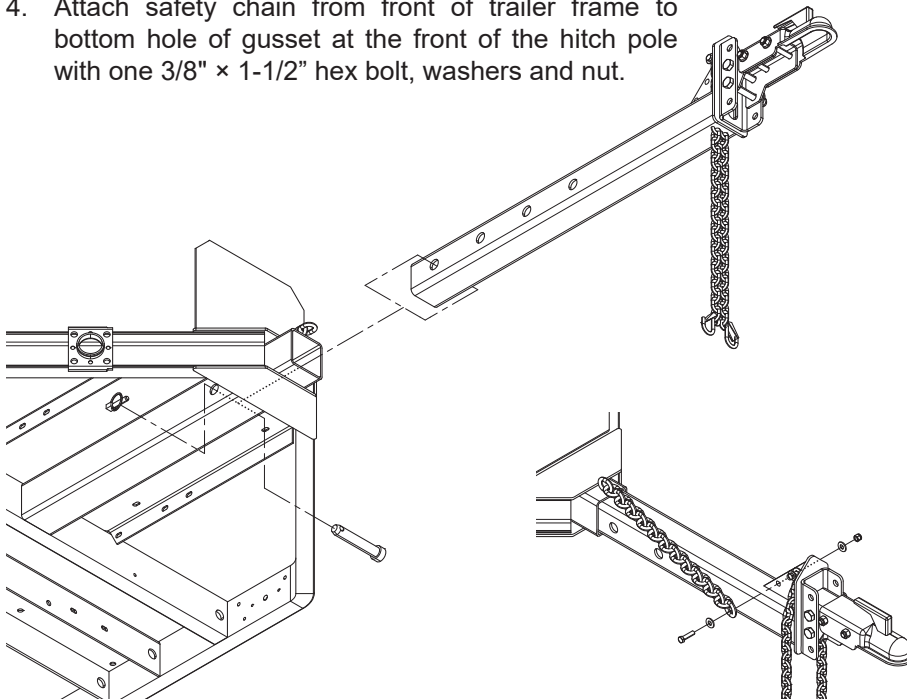

Figure 2.1, Trailer Hitch Pole Assembly Installation
1. Insert the adjustable hitch assembly into the hitch opening in the chipper trailer frame as shown in Figure 2.1.